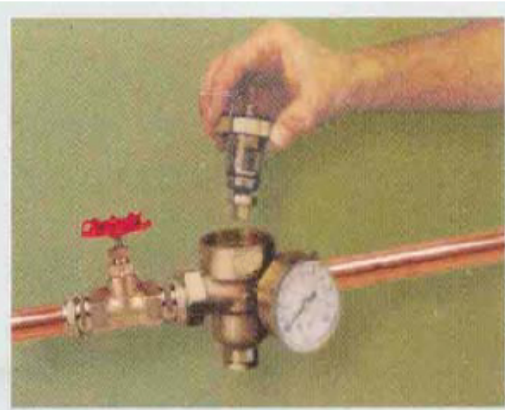

Figure 3
- 2) Use a screwdriver or pliers, take out the spool and spare basket, after washing or replacement, install them back to body in correct sequence and then adjust (Figure 3).